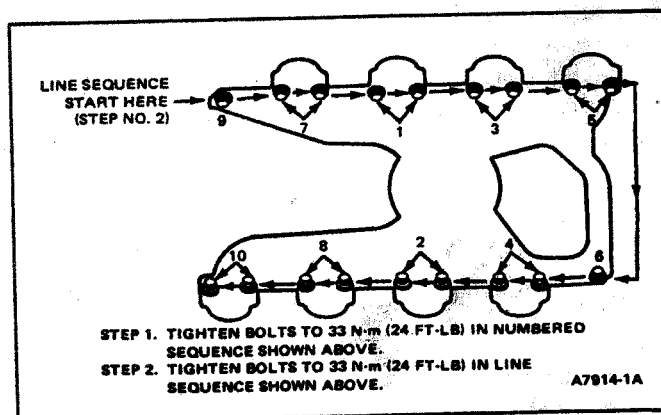

FIG. 56 Intake Manifold Attaching Bolts Tightening Sequence
11. Remove bolts attaching intake manifold to cylinder heads and remove manifold (Fig. 56).
12. Install intake manifold and tighten to specifications using the two-step method shown in Fig. 56.